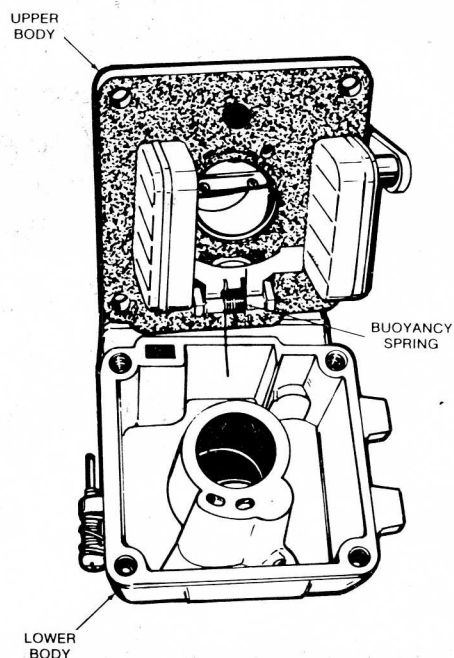

FIGURE 3
14. Assemble the upper carburetor body to the lower body insuring that the long free end of the helper spring is inserted inside the lower body. See Figure 3.